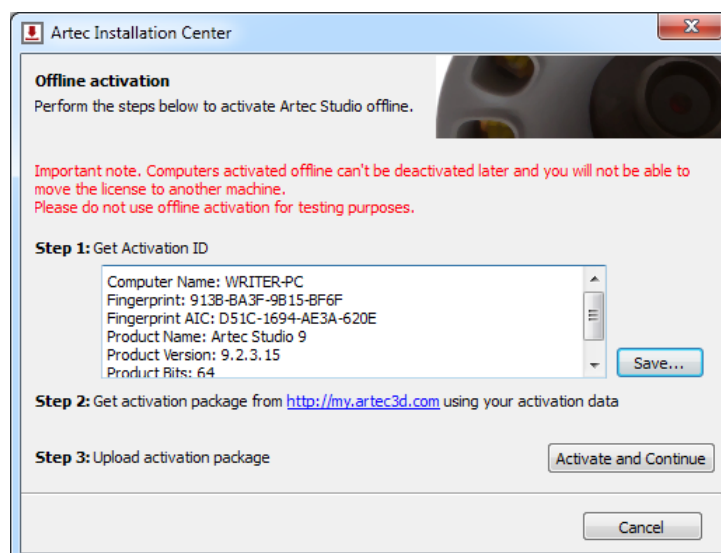

Figure 4.15.: Offline-activation window
3. In the offline-activation dialog (Figure 4.15.), click *Save...* and save generated Activation ID file to a flash drive or other storage medium.